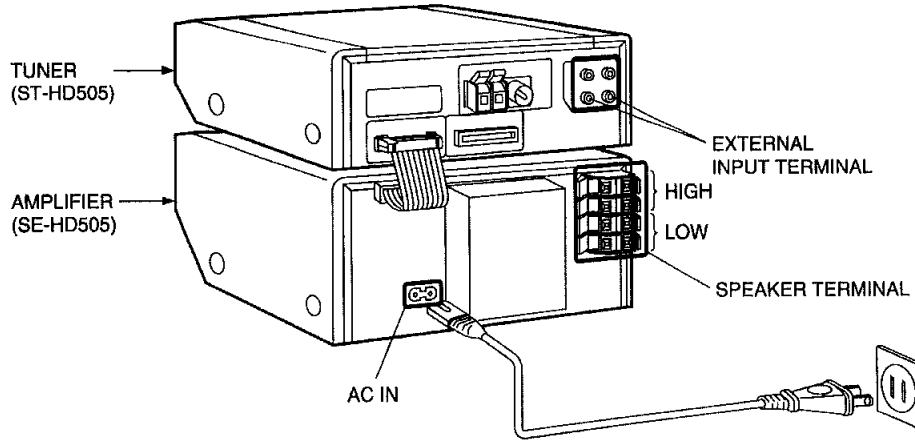

Fig. 1
1. Connect with the Tuner (ST-HD505). (As shown in Fig. 1)
2. Connect the AC mains lead to Amplifier (SE-HD505). (As shown in Fig. 1)
3. Connect the speakers to speaker terminal. (As shown in Fig. 1)